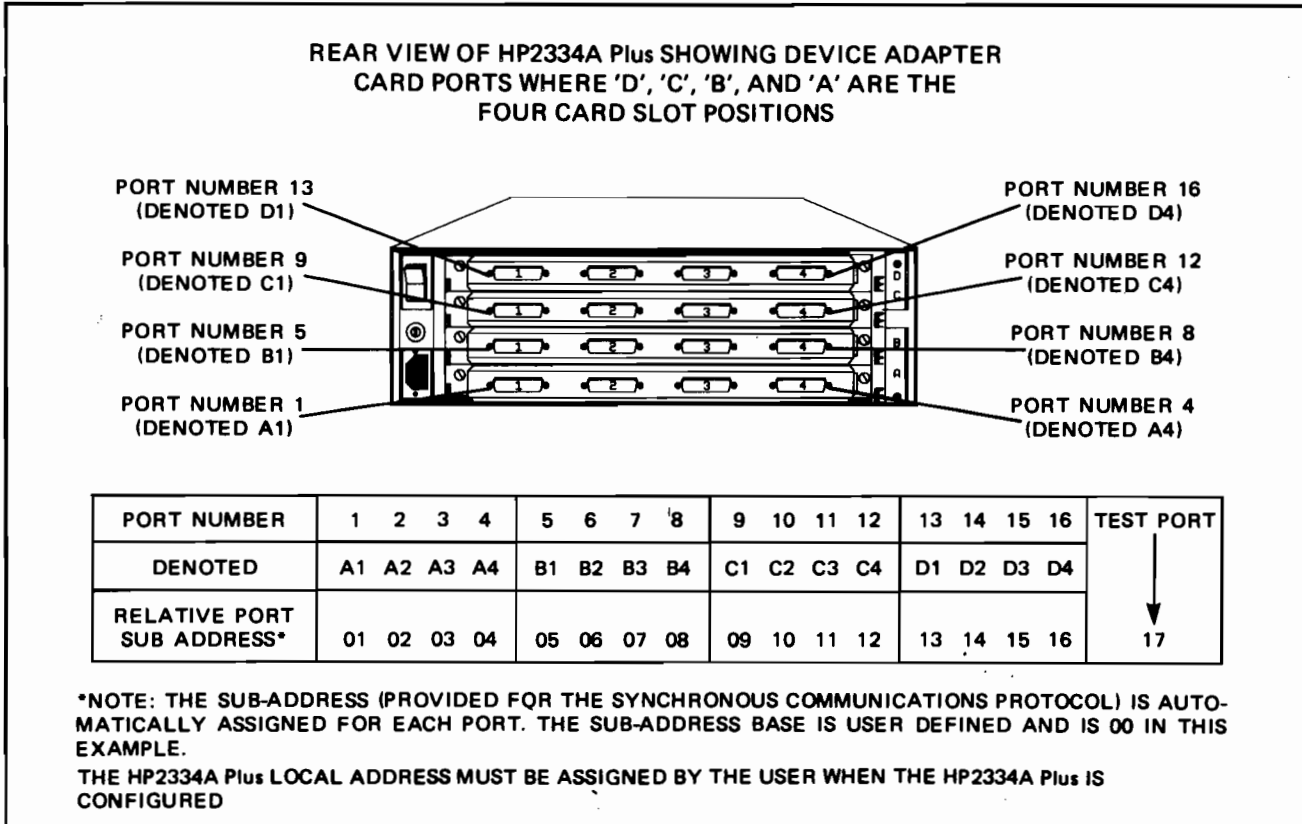

Figure 4-7 HP2334A Plus Device Adapter Card Port Sub-addresses
Once the HP2334A Plus has successfully passed the power-on and CPU Card DIP switch tests (if required) it may be connected to the device(s). To do this, simply plug the device cable connectors into the relevant rear panel Device Adapter Card ports (see Figures 4-7 and 4-8), ensuring that all locking screws are tightened. This may be done with the HP2334A Plus switched ON or OFF as required.
- Each device port is automatically assigned a unique device sub-address, required by the HP2334A Plus-to-synchronous network communications protocol (see Figure 4-7). Each device should therefore be plugged into it's correct port in order that the port sub-address matches that assigned to the device by the host computer.